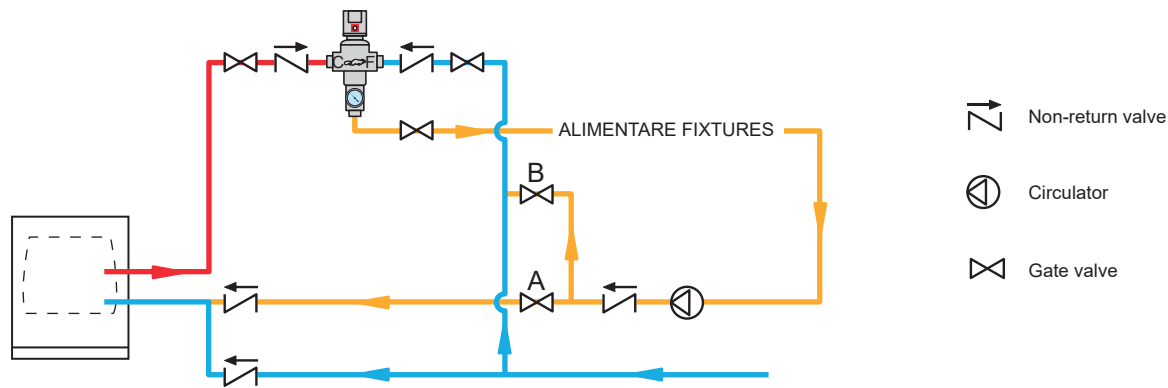

Fig. 2
- If recycling circuit has been installed, after setting the mixed water temperature, turn off all the taps and wait until the thermometer shows the temperature of the recycling circuit. If this is different from the temperature set for the mixed water, the circuit must be balanced by means of gate valves A and B (Fig. 2).
- If the recycling circuit temperature is higher, use gate valve A to reduce flow as much as possible. See the installation diagram (Fig. 2).